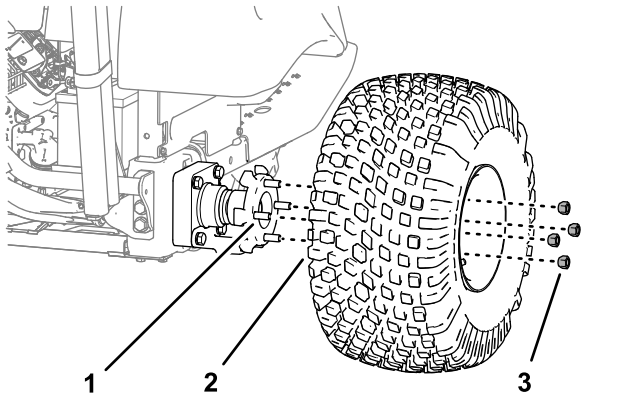

Figure 30
2. Remove the 4 wheel nuts that secure the wheel to the hub, and remove the wheel and tire (Figure 30).
7. Assemble the tire and wheel into the studs of the wheel hub (Figure 30) with the 4 wheel nuts that you removed in step 2, and tighten the nuts by hand.